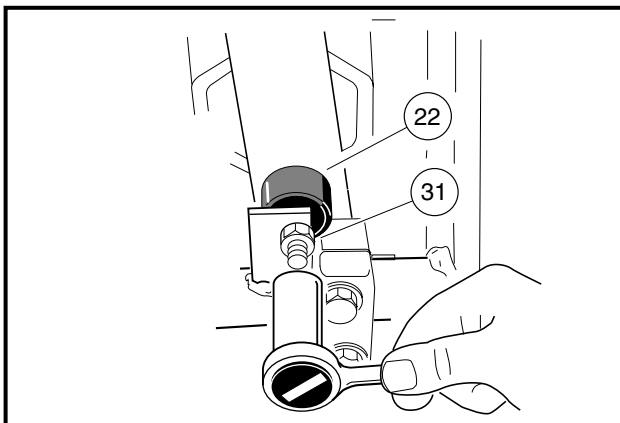
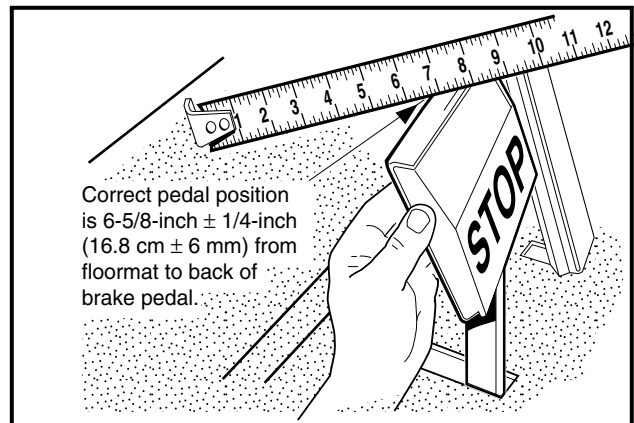

Figure 5-4 Adjust Brake Pedal Height
Figure 5-5 Measure Brake Pedal Height
3. Loosen, but do not remove, the brake stop jam nut (31) (Figure 5-4, Page 5-3).
4. Pull the brake pedal toward the rear of the vehicle until the brake stop bumper will not allow the pedal to travel any further (Figure 5-5, Page 5-3).
6. Adjust the brake stop bumper (22) up to decrease the distance between the pedal and the floorboard, or down to increase (Figure 5-4, Page 5-3). Proper brake pedal height is 6-5/8 inches  $\pm$  1/4-inch (16.8 cm  $\pm$  6 mm) (Figure 5-5, Page 5-3).
7. Tighten the jam nut (31) to 8 ft-lb (9.5 N-m) (Figure 5-4, Page 5-3).